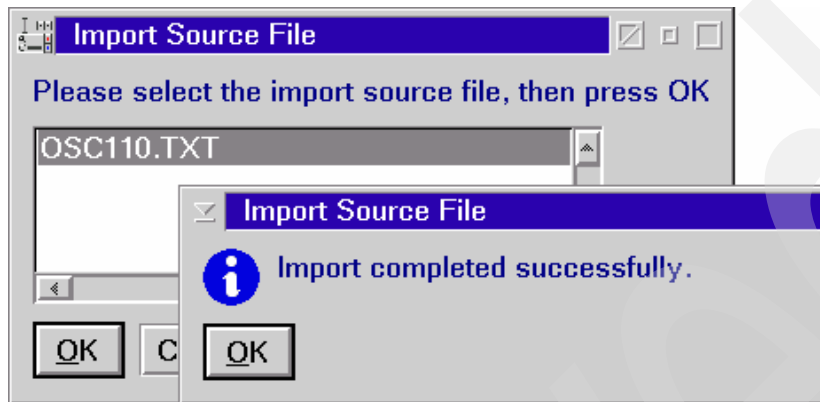

Figure 3-17 Import source file
9. After the file is imported, the Import Source File completed successfully panel is displayed (see Figure 3-17).